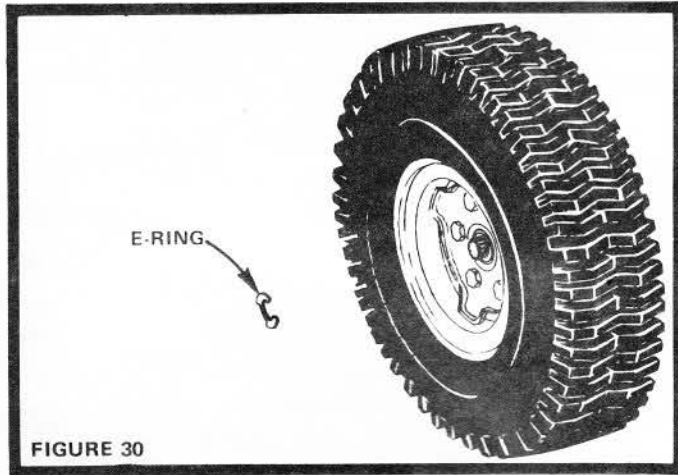

FIGURE 30
- e. Removing rear wheel for tire repair (Fig. 30):